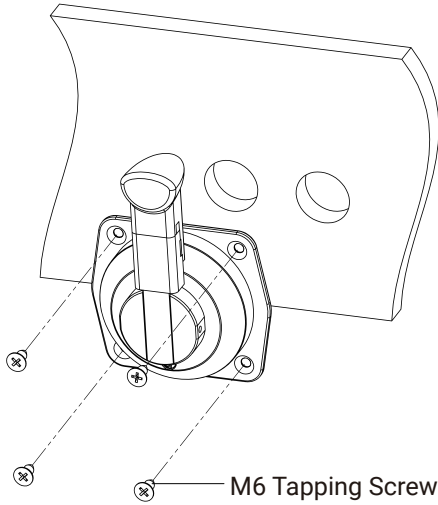

Figure 2-4
2. Fix the throttle to the side of the boat referring to the figure 2-4.